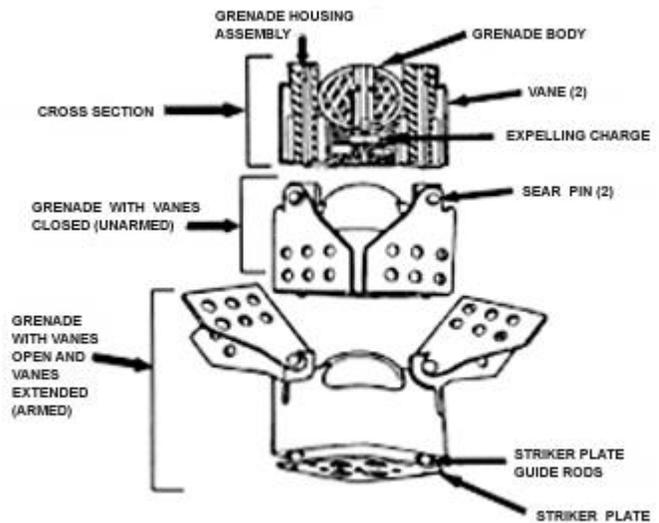

Figure 2-9. M39 ICM grenade
f. Antipersonnel. Round. The M39 grenades (Figure 2-9) used in the 105-mm antipersonnel round contain steel balls filled with explosive. The 105-mm projectile contains 18 M39 grenades. When the fuze in the projectile functions, it ignites the black powder expelling charge in the projectile. The burning black powder builds up pressure that forces all of the grenades out through the base of the projectile. Small vanes on each grenade flip upward and arm the grenade. The vanes keep the armed grenade in a vertical position as it falls through the air so that the striker plate at the base of the grenade strikes the ground.